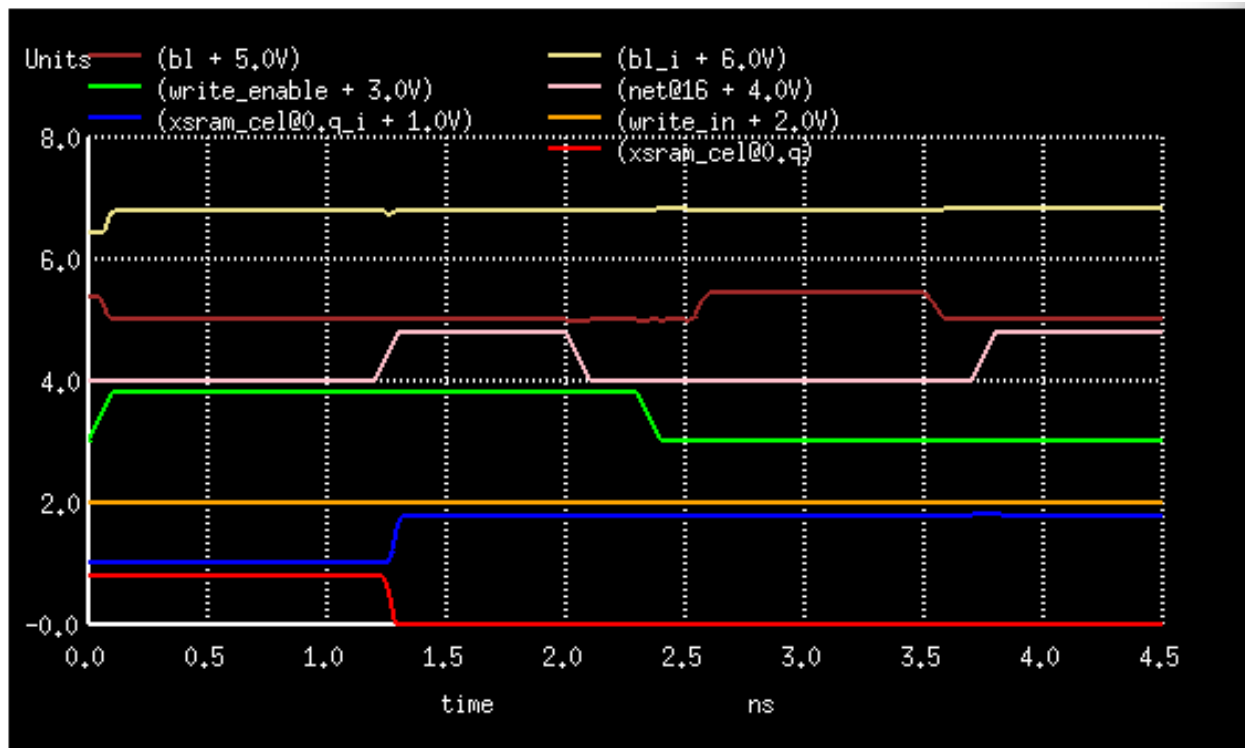

Figure 6: Writing 0 and then reading 0
1. Reading a 0 from a cell that was written to 0 (Figure 6).
In each reading case, we made sure that the reading process did not cause enough of a read upset to overwrite Q . These read upsets are not visible in Figures 6 or 7 and were on the order of tens of millivolts, so we are confident that reading from these cells is not destructive.